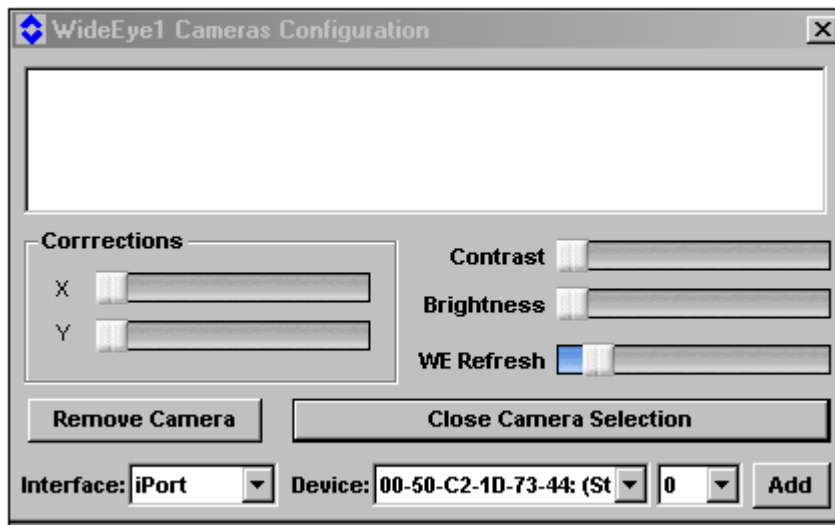

Figure 12 – Cameras Configuration
3. Select **Cameras**, click on **Open Camera Selection**. See Figure 12 – Cameras Configuration.